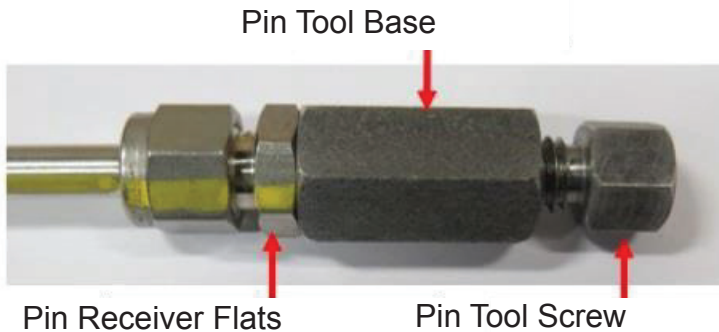

Figure 40: Make sure the pin tool base contacts the pin receiver body.
- Hand tighten the pin cap tool base onto the pin receiver (Figure 40).